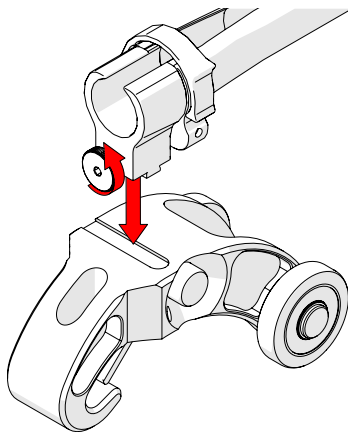

Fig. 101 - Loosen and slide on
1. Loosen the knob on the cable management dovetail mount. Position the mount onto the Dovetail QuickLink (Fig. 101).